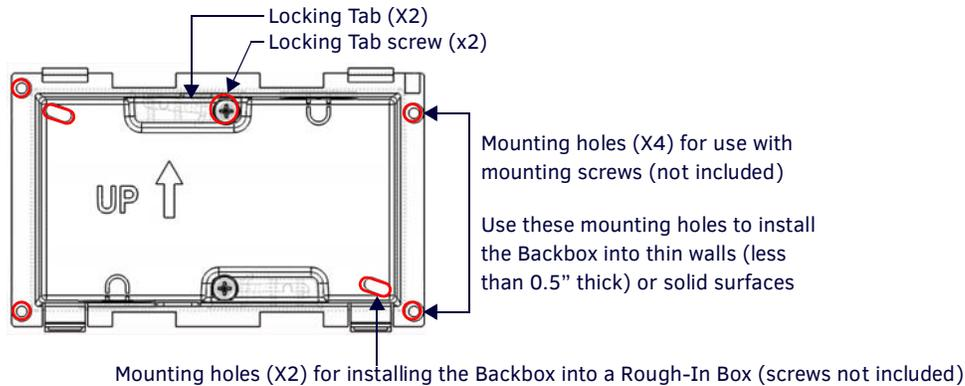

FIG. 23 4" MODERO S Backbox (Front View)
- FIG. 23 shows the Backbox for the MSD-431-L: